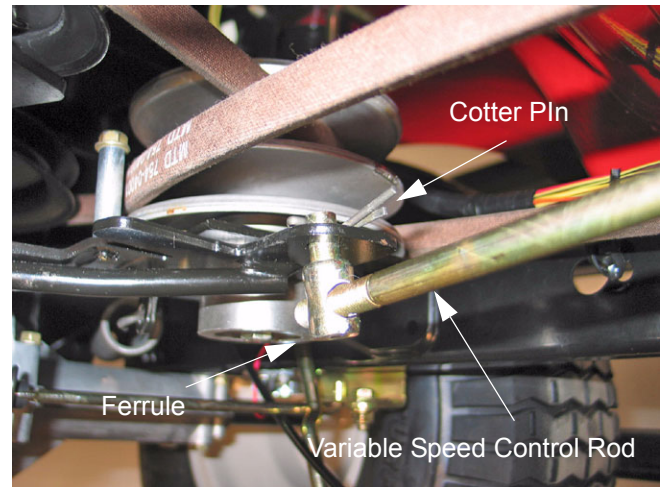

Figure 62
- 16.3. Working from under the tractor, remove the cotter pin securing the speed control rod to the variable speed idler bracket. Remove the ferrule from the bracket the let the rod hang down. See Figure 62.